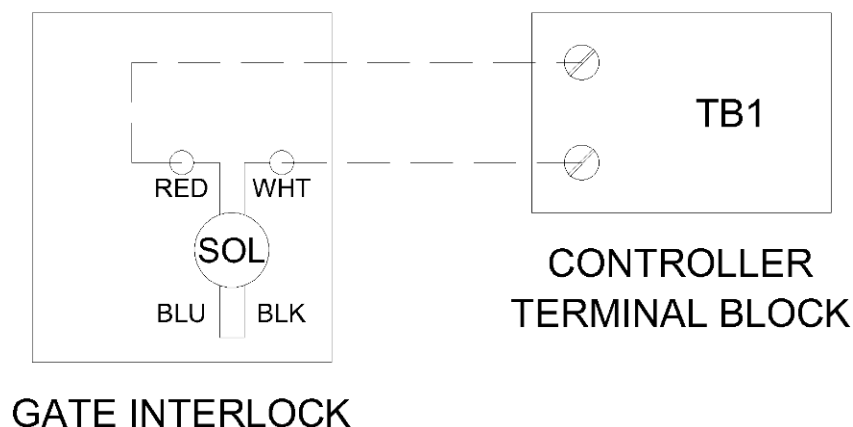

Figure 10 – Interlock Wiring
- See **Figure 10** for wiring diagram.